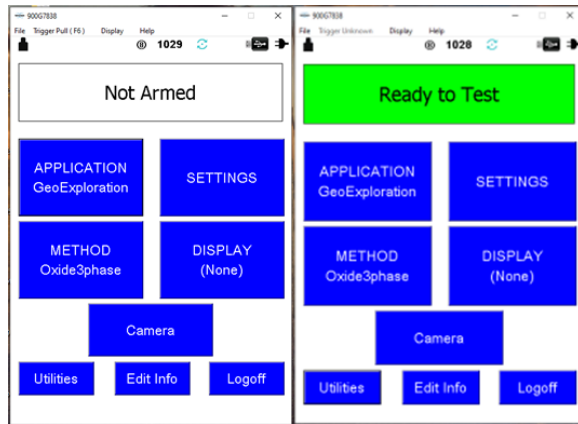

Figure 6. pXRF initial screen. Left: X-ray is not active. Right: X-ray is active
7. When the device is connected, your screen should look like Figure 6. The device will say **Not Armed** when the x-ray is not active and the device will say **Ready to Test** when the x-ray is active.